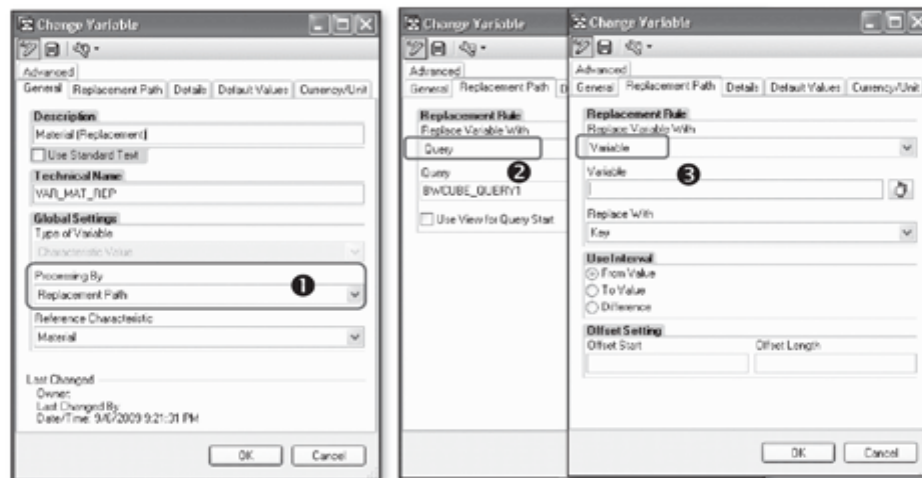

Figure 9.30 Creating Characteristic Value Replacement Path Variable
To define a replacement path variable, select Replacement Path as the processing type from the Processing By dropdown (❶ of Figure 9.30) on the General tab of the variable editor.
For the selected processing type, the Replacement Path tab is now enabled. On this tab, you can specify if the variable should be replaced with the value from a query (❷ of Figure 9.30) or if it should be replaced with a value from another variable (❸). The corresponding settings for the selected option can be done on the same tab.